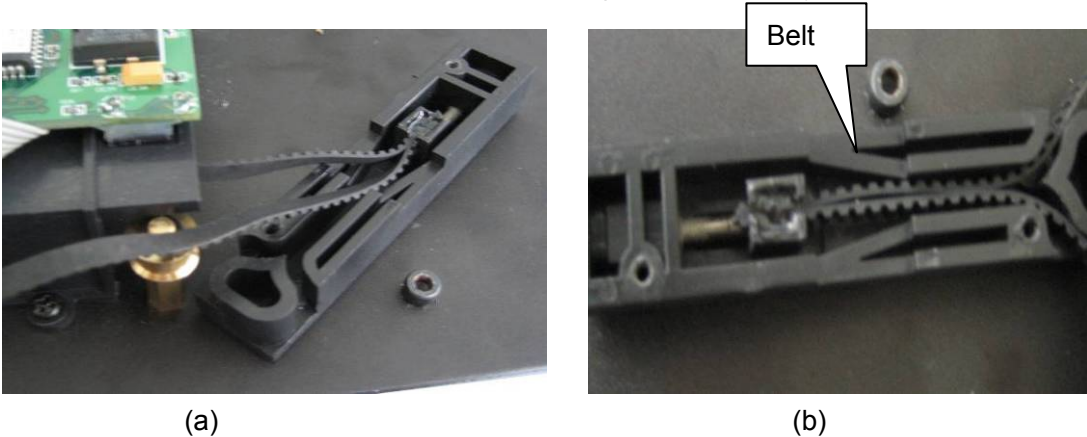

Figure 3-17
- 5、 Take off the old belt and replace a new one. The replacing procedure is shown as figure 3-17 (b), here please note that the side with tooth should face outside. In 3-18 (a) , please note that the side with tooth should face inside.